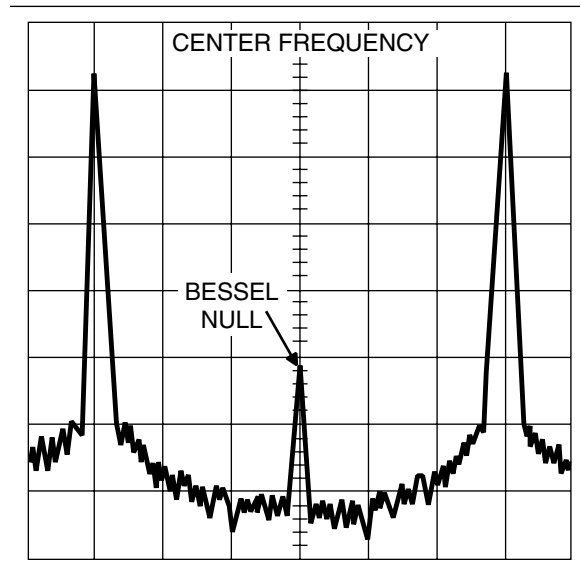

Figure 4-12. Typical Spectrum Analyzer Display of Bessel Null on FM Waveform
- e. While observing the first Bessel null (Figure 4-12) on the Spectrum Analyzer display, adjust the value of the DAC's setting to reduce the carrier level as low as possible.
- d. While observing the first Bessel null (Figure 4-12, page 4-38) on the Spectrum Analyzer display, adjust the value of the DAC's setting to reduce the carrier level as low as possible.